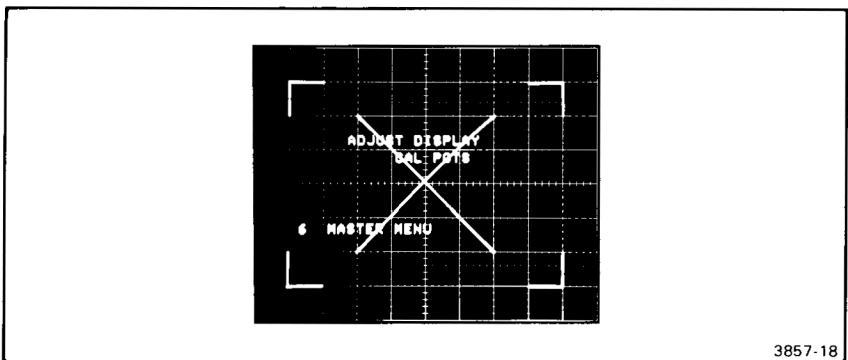

Figure 2-10. Adjust VECT LIN.
- Step 5** Adjust the VECT LIN (Vector Linearity) control to close the crossing pattern in the DISPLAY CAL test pattern as shown in Figure 2-10. This will optimize the vector display by compensating for the delay line length of the host mainframe.